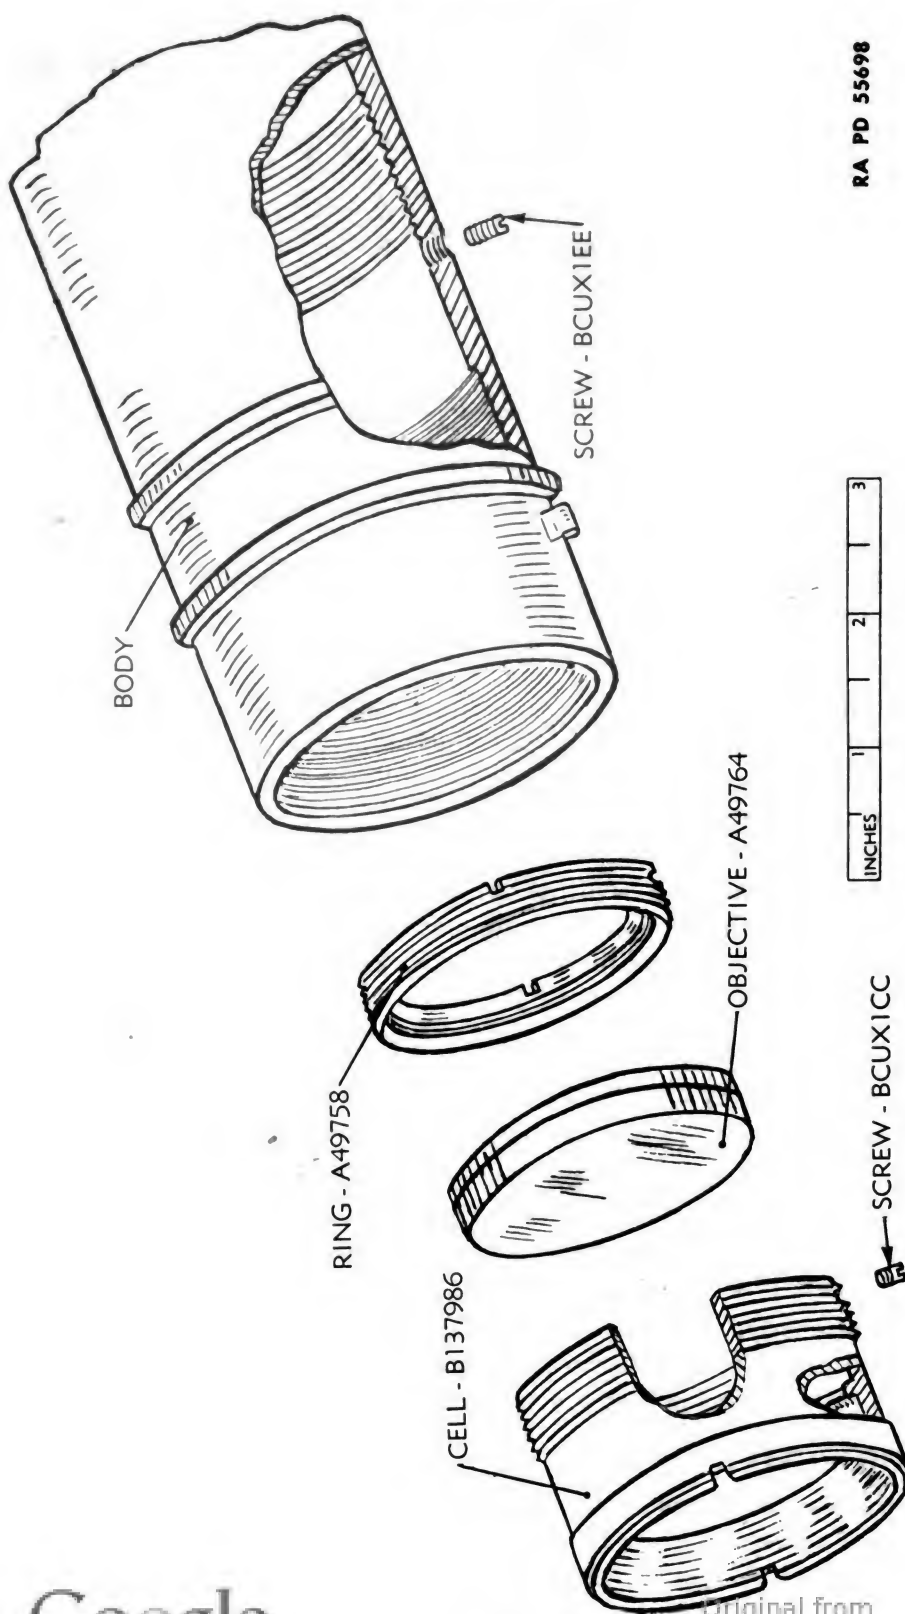

Figure 44—Objective Assembly—Exploded View
a. Removal. Loosen the headless screw BCUX1EE in the under side of the telescope body D29343 (fig. 44), and unscrew the objective assembly B137992, using a spanner wrench (2½ inch span). It may be necessary to exert some force in starting the objective assembly due
b. Disassembly. Unscrew the headless screw BCUX1CC in the objective cell B137986 (fig. 44). Unscrew the retaining ring A49758. Remove the objective from the cell. Mark the edge of the objective A49764 to insure correct positioning on assembly. Wrap the objective in clean PAPER, lens, tissue, and store in a safe place to prevent possible damage or breakage.
(1) Before assembling, remove all dust from the interior of the objective cell with the air bulb and see that the objective is clean. Replace the objective in its original position in the objective cell in accordance with the reference marks, making sure the objective is fully seated. Insert the retaining ring and draw up to firmness and secure with the headless screw BCUX1CC.
(2) Before assembling the objective assembly in the telescope body, clean away all old sealing cement from the objective cell and telescope body. Use the air bulb to remove all fine particles. Fill the external space around the objective cell with new CEMENT, sealing or plugging, and assemble in the telescope body. Adjust for parallax (par. 26) and when the adjustment is satisfactory tighten the headless locking screw BCUX1EE.